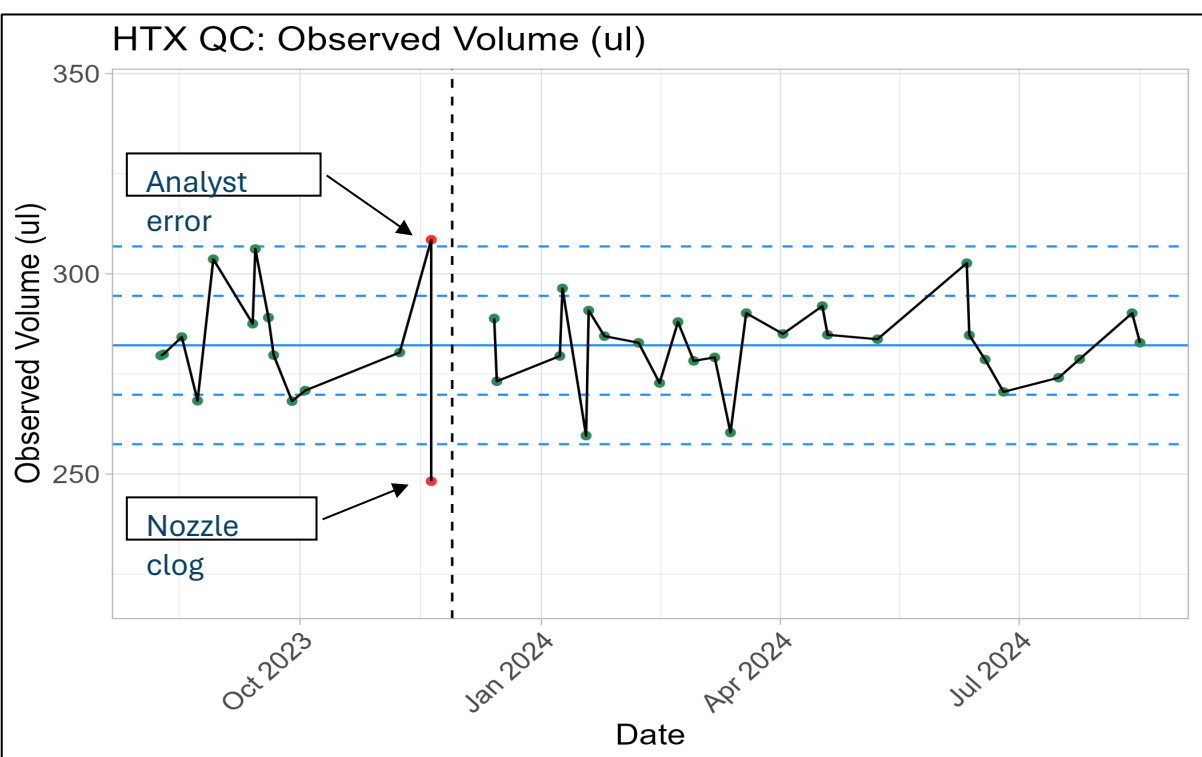

Figure 2: Detecting out-of-specification condition on the HTX sprayer
**Figure 2** shows a snap-shot of the historical performance of the M3+ sprayer. The red dot highlights an out-of-specification measurement due to matrix build-up in the sprayer nozzle. After flushing the nozzle with solvent, the performance was restored.